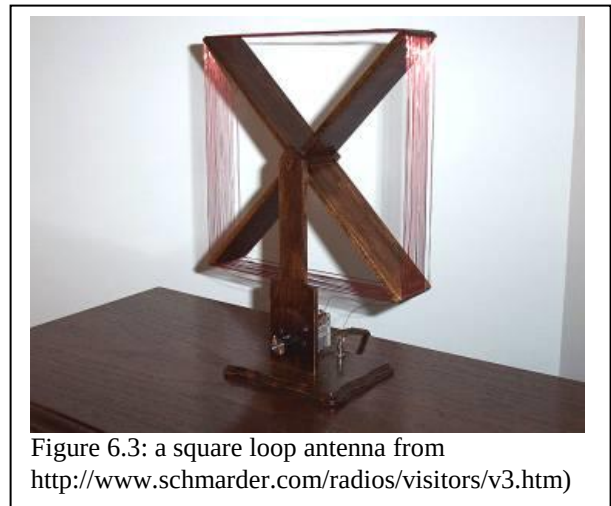

Figure 6.3: a square loop antenna from <http://www.schmarder.com/radios/visitors/v3.htm>
- Frame dimensions: The loops may be strung around a square wooden cross such as the one shown in Figure 6.3. Notches or grooves may be cut into the cross ends to hold the wires in place. Alternatively, wires could be wrapped around a cardboard box (a pizza box might work well for this). If you choose the pizza box, it is a good idea to measure the box dimensions prior to lab, or bring a ruler to lab.